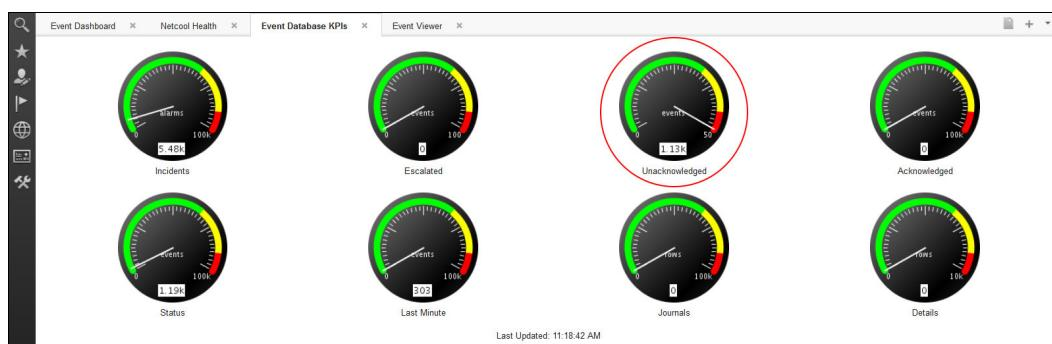

Figure 7-1 NOI KPI dashboard
4. On the dashboard, Jane can see that event gauge goes critical. As more events are received, the event rate gauge starts to climb and it goes close to the red (critical section), as shown in Figure 7-1.